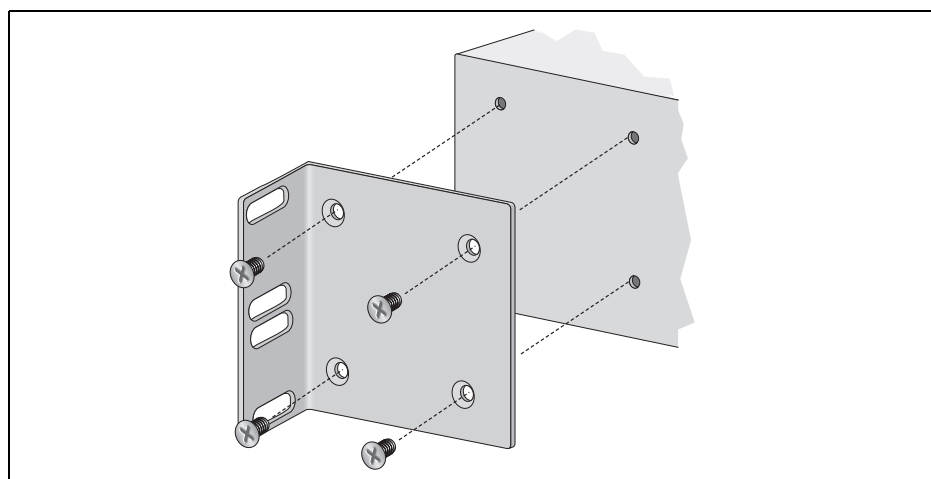

Figure 16. Attaching Rack-Mount Brackets
4. Attach a rack-mount bracket to one side of the switch using four of the screws that come with the switch, as shown in Figure 16.